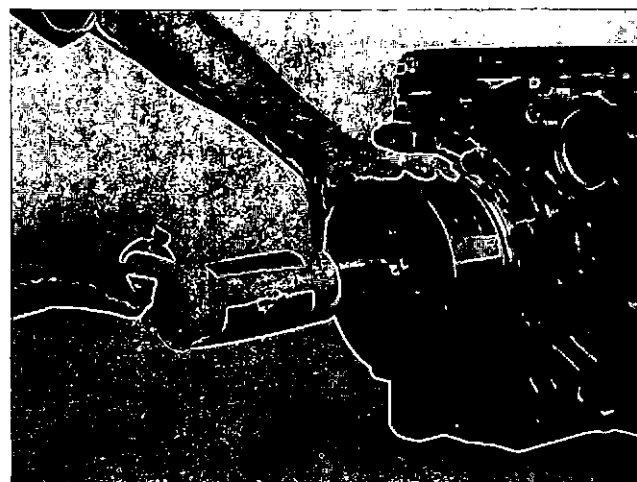

Fig. 14-55 (N114274). Install The Oil Seal.
9. Install the oil seal into the rear cover. Install the ST-997-6 Buttons into the ST-997 Seal Driver. Use the seal driver to push the oil seal into the rear cover, Fig. 14-55.